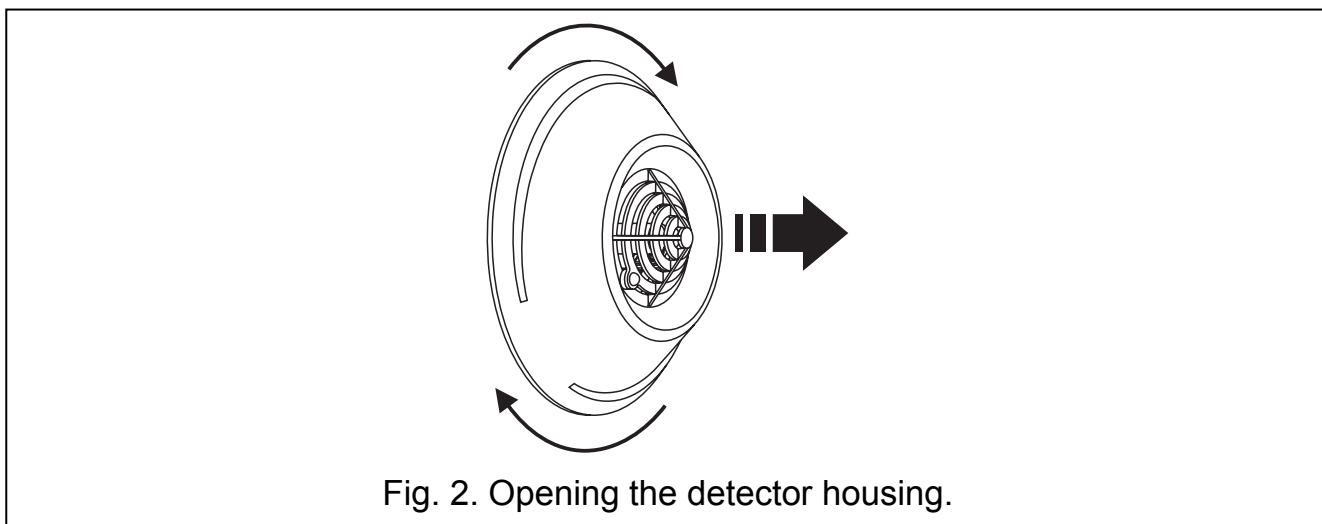

Fig. 2. Opening the detector housing.
1. Open the housing as shown in Fig. 2.